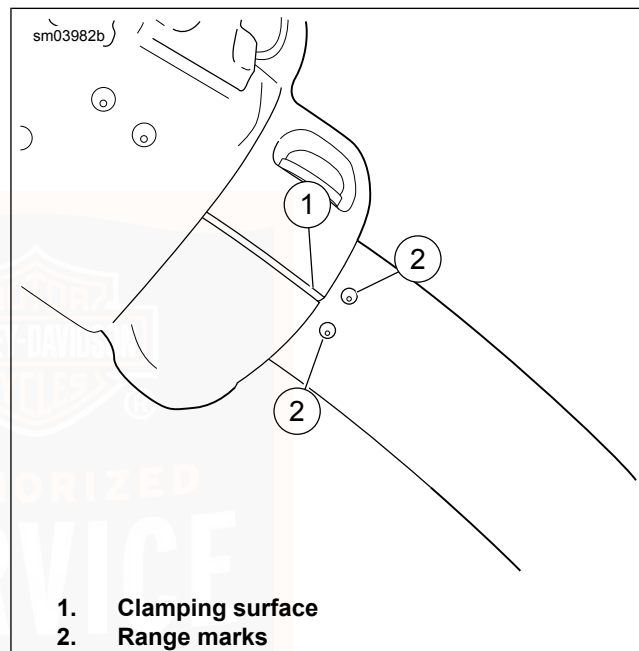

Figure 91. Left Hand Control Assembly to Handlebar Alignment
2. See Figure 91. Rotate the left hand control assembly and clutch hand lever to a comfortable position. Keep the clamping surface (1) within the range marks (2).